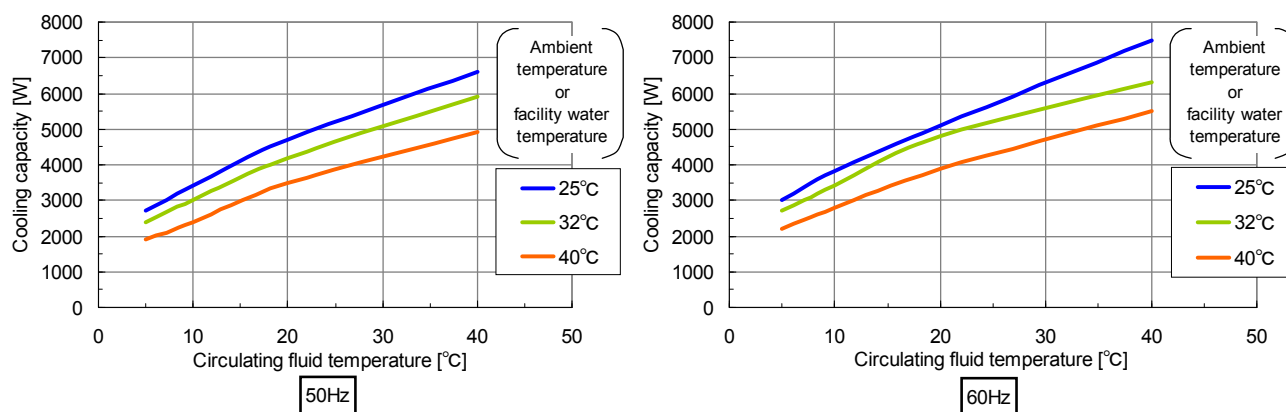

Fig. 8-4 Cooling capacity(HRS050-**-20-(BJM))
*The amount of the facility water for the operation with rated circulating fluid, cooling capacity which is described in fig.8-4.